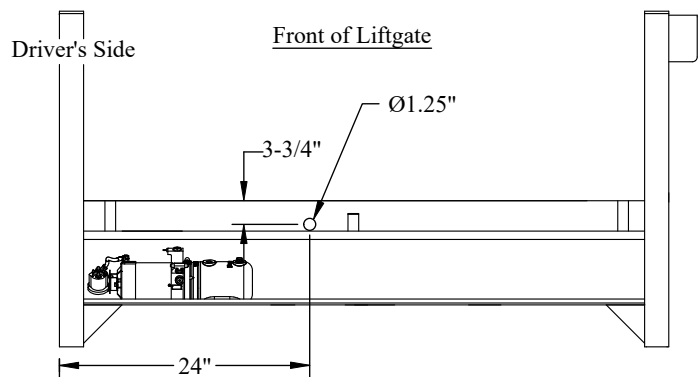

Figure 8: Spare tire access.
2. **Remove and Discard** the black plastic plug from the mainframe at the location shown (Figure 8).